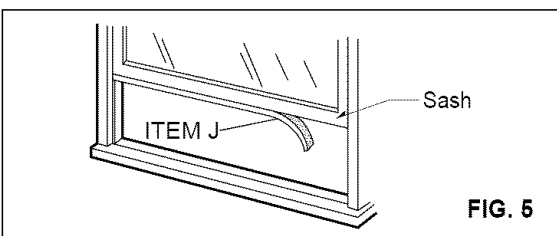

FIG. 5
- 3 Cut the FOAM SEAL (ITEM J) to fit the underside of the window sash. Peel off the backing and attach the FOAM SEAL as shown in Fig. 5.